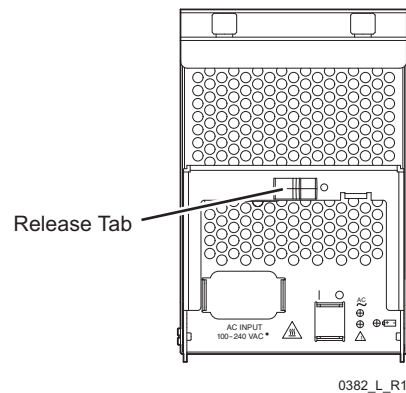

Figure 18-2. Push the Release Tab to the Right and Lower the Lever.
- 8 Push the release tab on the lever of the power supply to the right and lower the lever to a horizontal position (Figure 18-2).